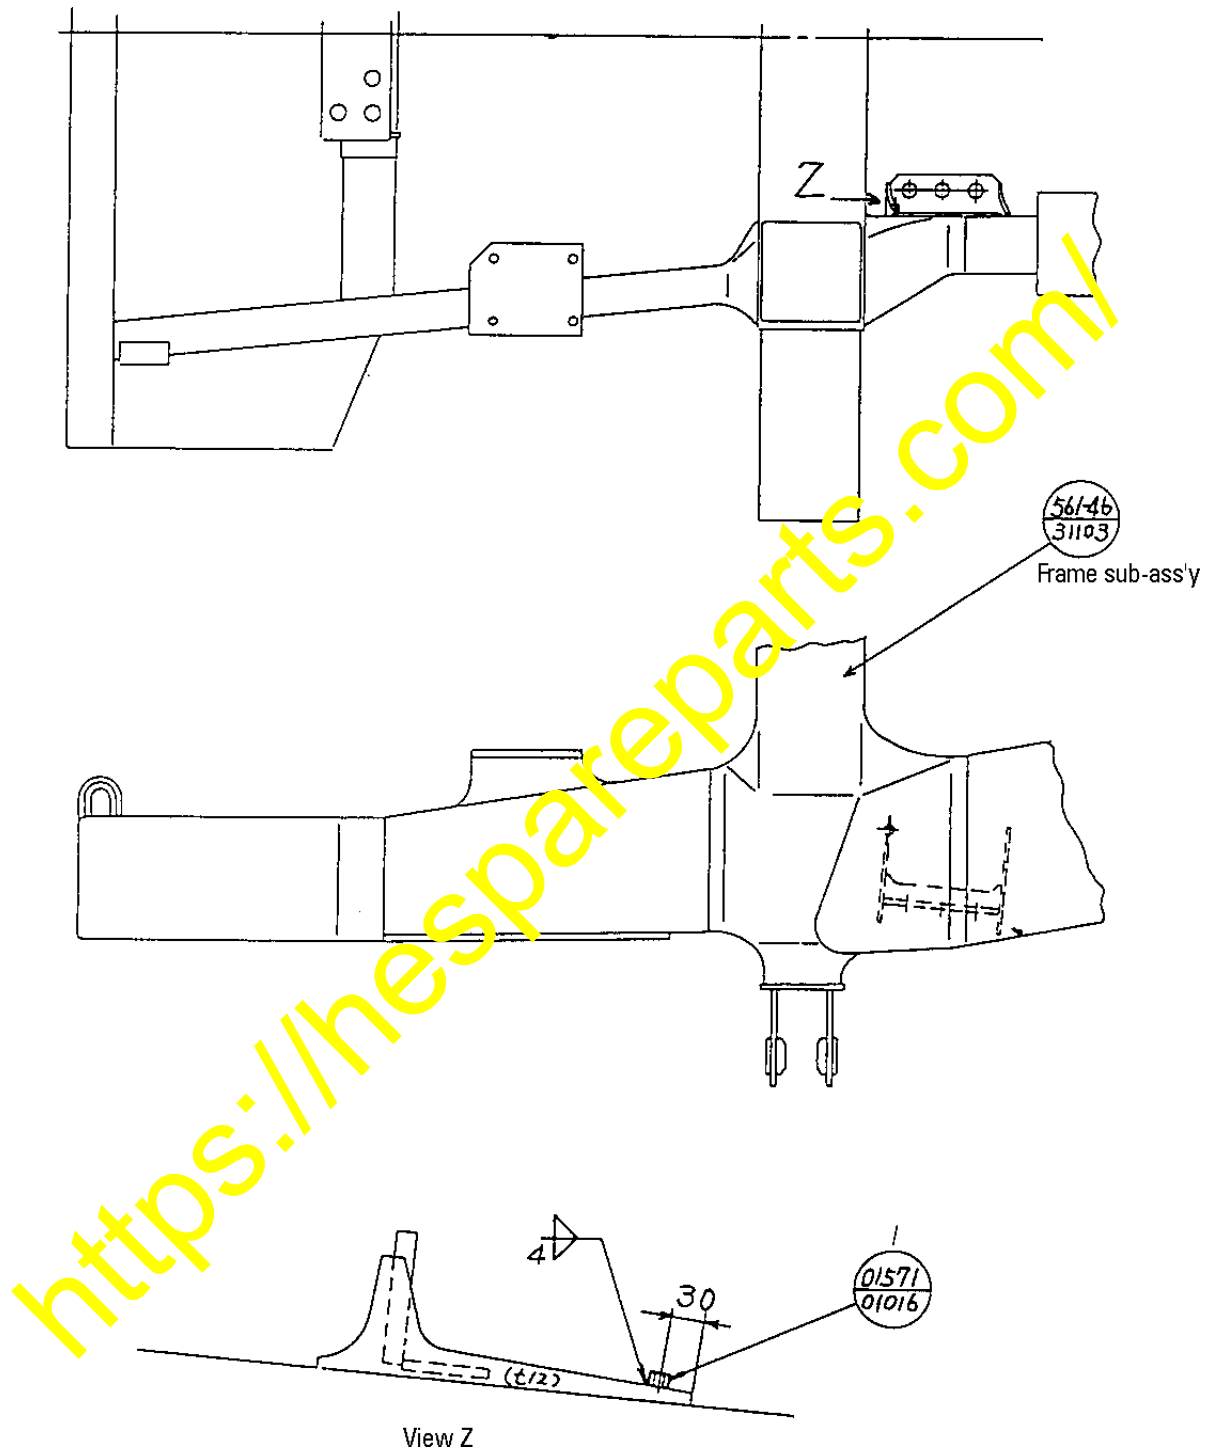

Fig. 19
(2) Weld a SEAT (01571-01016) (1) to FRAME (561-46-31103). (See Fig. 19)